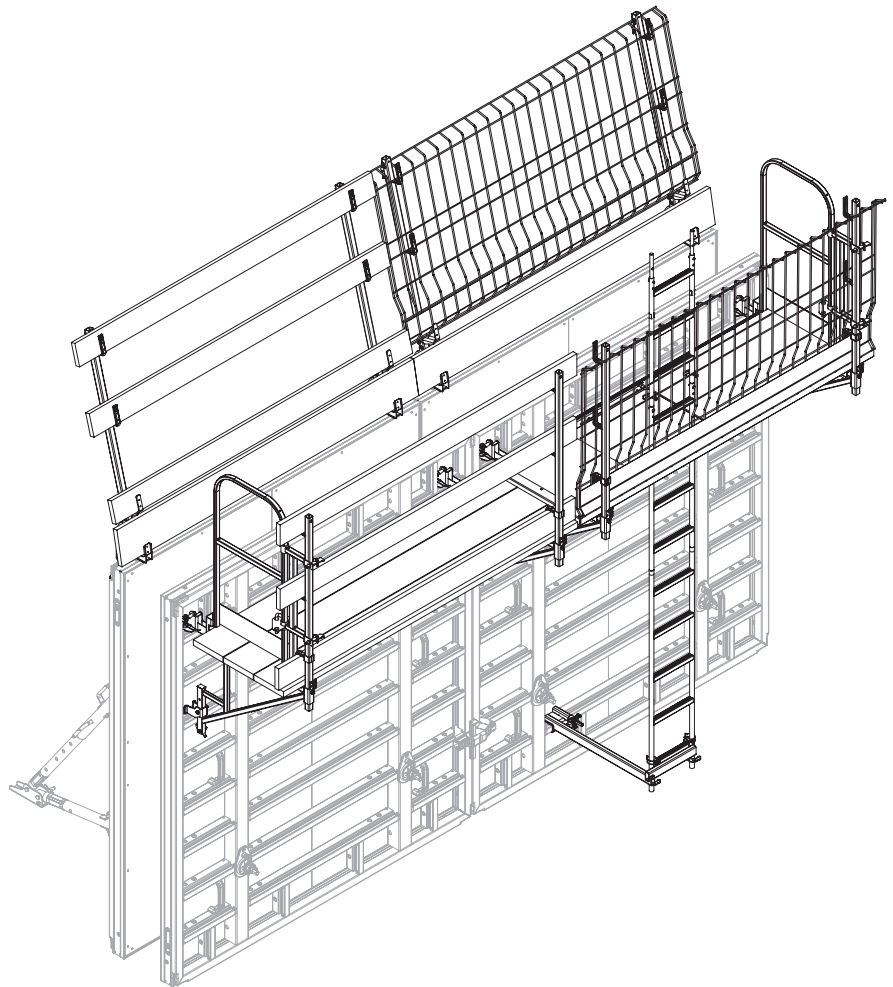

Fig. A13.11
- Shown: Height 2.70 m (Fig. A13.11)
- For attachment points on Panel MX-2 (5), see Section "A15 Anchoring points" on page 104.